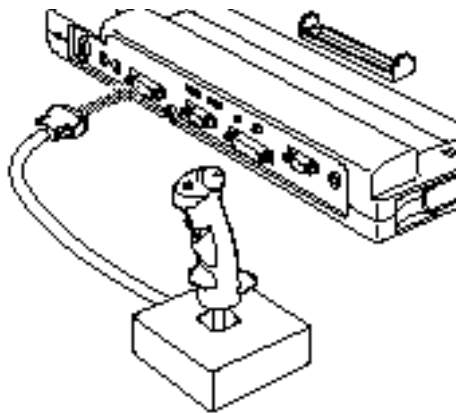

Figure 4-11 Installing a MIDI/Joystick Device
3. Align the connector of the MIDI device with the connector towards the body of your LAN Enhancement Unit. (Figure 4-11.)
3. Unscrew the screw locks on both sides of the MIDI/joystick device connector next to the body of your LAN Enhancement Unit. (Figure 4-11.)